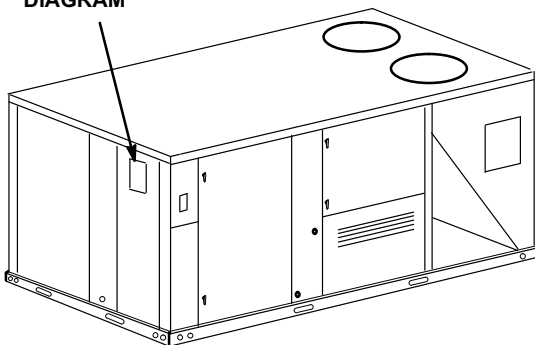

FIGURE 6
- 3- Select wiring diagram with appropriate unit model number and affix to unit in location shown in figure 6.